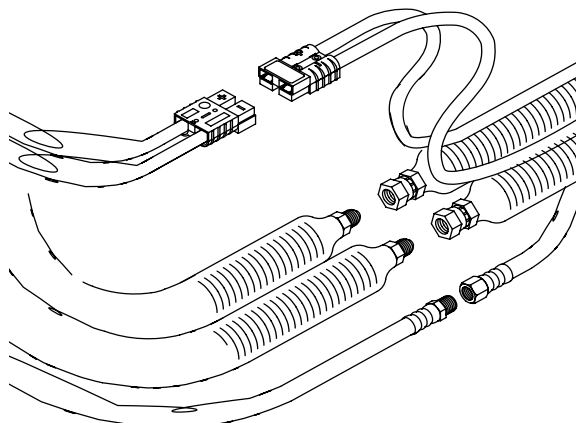

FIG. 8: Hose Connection (step a)
- a. Lay out hose assemblies end-to-end as shown in FIG. 8.